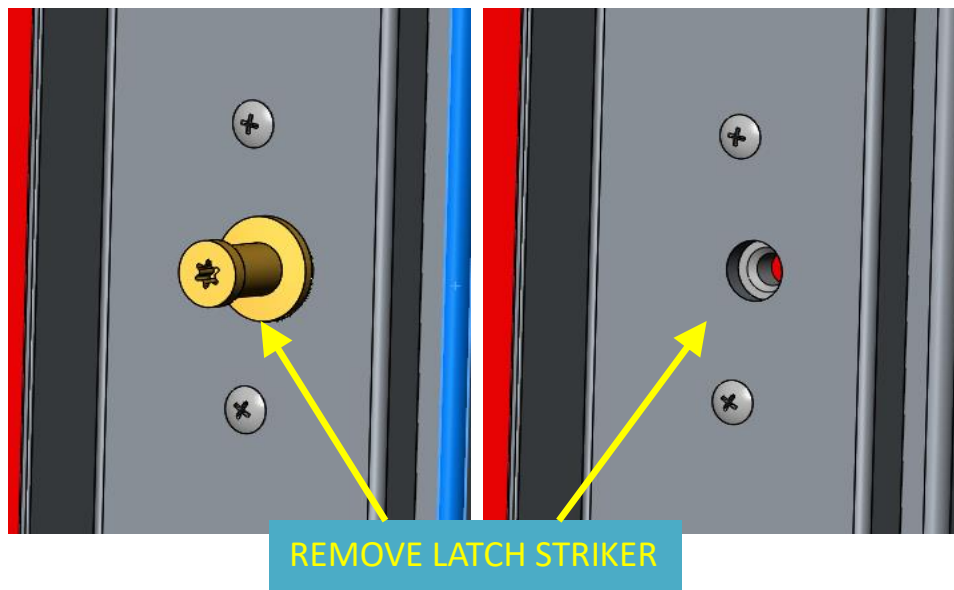

FIG. 8-2
9. Remove the door latch striker. Take note of any additional spacers/washers used behind each door latch striker washer. Save spacers/washers for reuse: Refer to FIG. 8-2.
10. Replace the door latch striker with P.N. 1975-EE3-001. If applicable, transfer any additional spacers/washers found in Fig. 8-2 to replacement striker. Spacers/washers are necessary for latch alignment. Install striker snug tight. Check alignment to latch. Once alignment is achieved, tighten striker to recommended torque. Refer to FIG. 9-1 and 10-1.